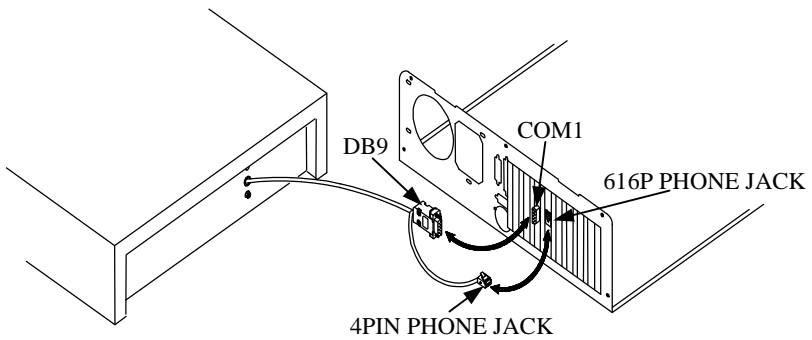

Fig 3 Model CR4004/4104
3. Connect the DB-9 connector to the computer's serial port of COM1 (or COM2). Connect the 4P phone plug connector to the added I/O bracket. See **Fig3**.